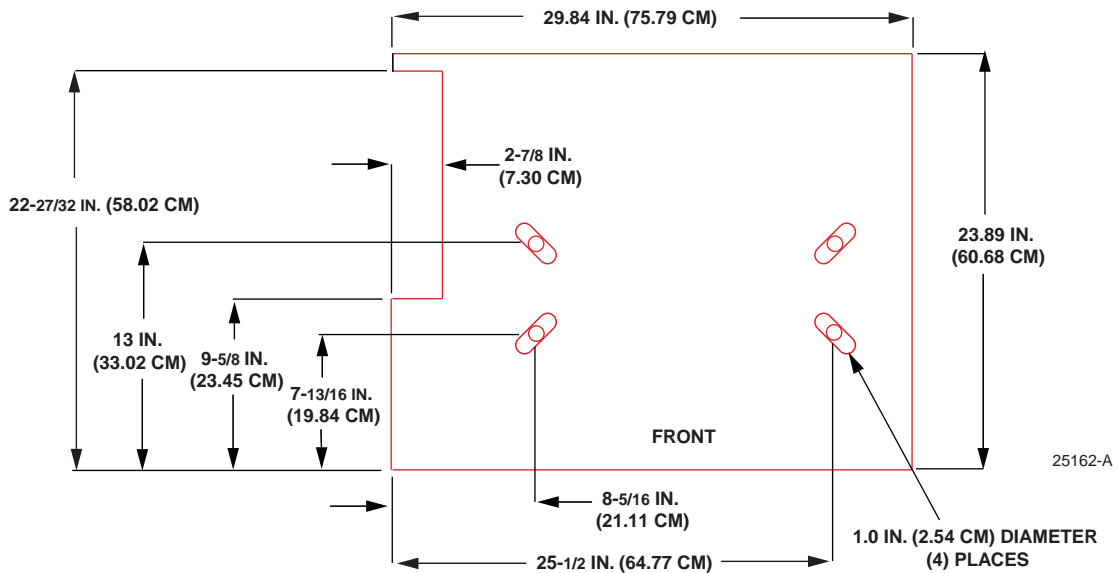
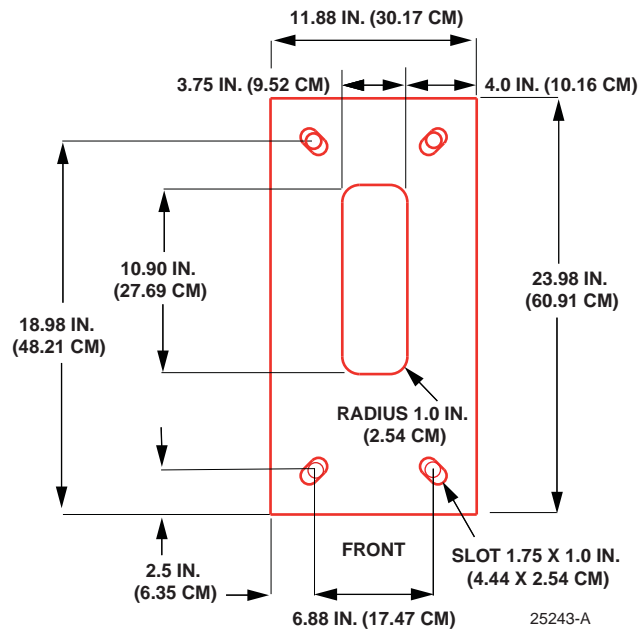

Figure 1. Frame Footprint (Optional Template Shown)
Figure 2. FOTSP Footprint
Figure 1 shows the frame footprint. Figure 2 shows the FOTSP footprint. The FOTSP is installed adjacent to the frame on the left side of the frame looking from the front.
2. If cables will enter the FOTSP from under the floor, saw out a cable entry hole, referring to Figure 2 on Page 6 for hole location and dimensions.